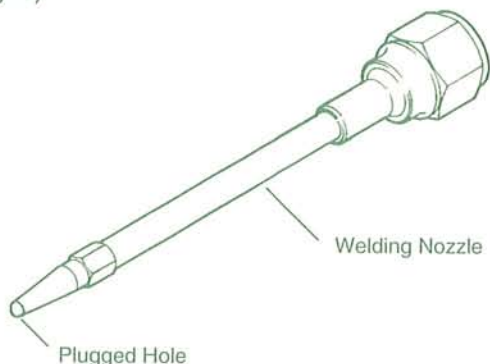

Fig. 3 - Plugged Welding Nozzle for Leak Testing
- A plugged Welding Nozzle with both seats intact (See Fig. 3)
2. Install the plugged Welding Nozzle in the Head (See Fig. 3).